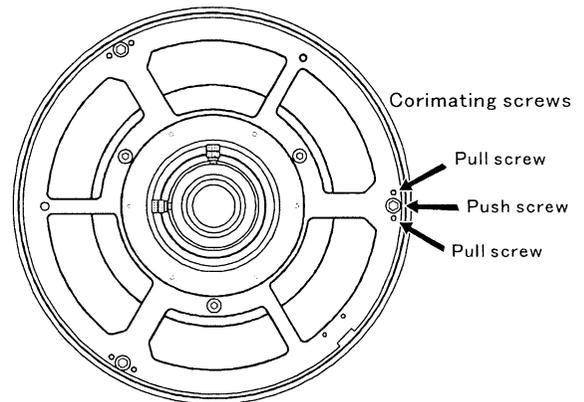

Fig. 20
4. Loosen 3 sets of the primary cell locking screws provided on the the bottom ring. Refer to the Fig. 20.
The collimation for the primary axis is made with 3 sets of the pull screws and 6 sets of the push screws, by using Allen wrenches provided. Refer to the Fig. 20.